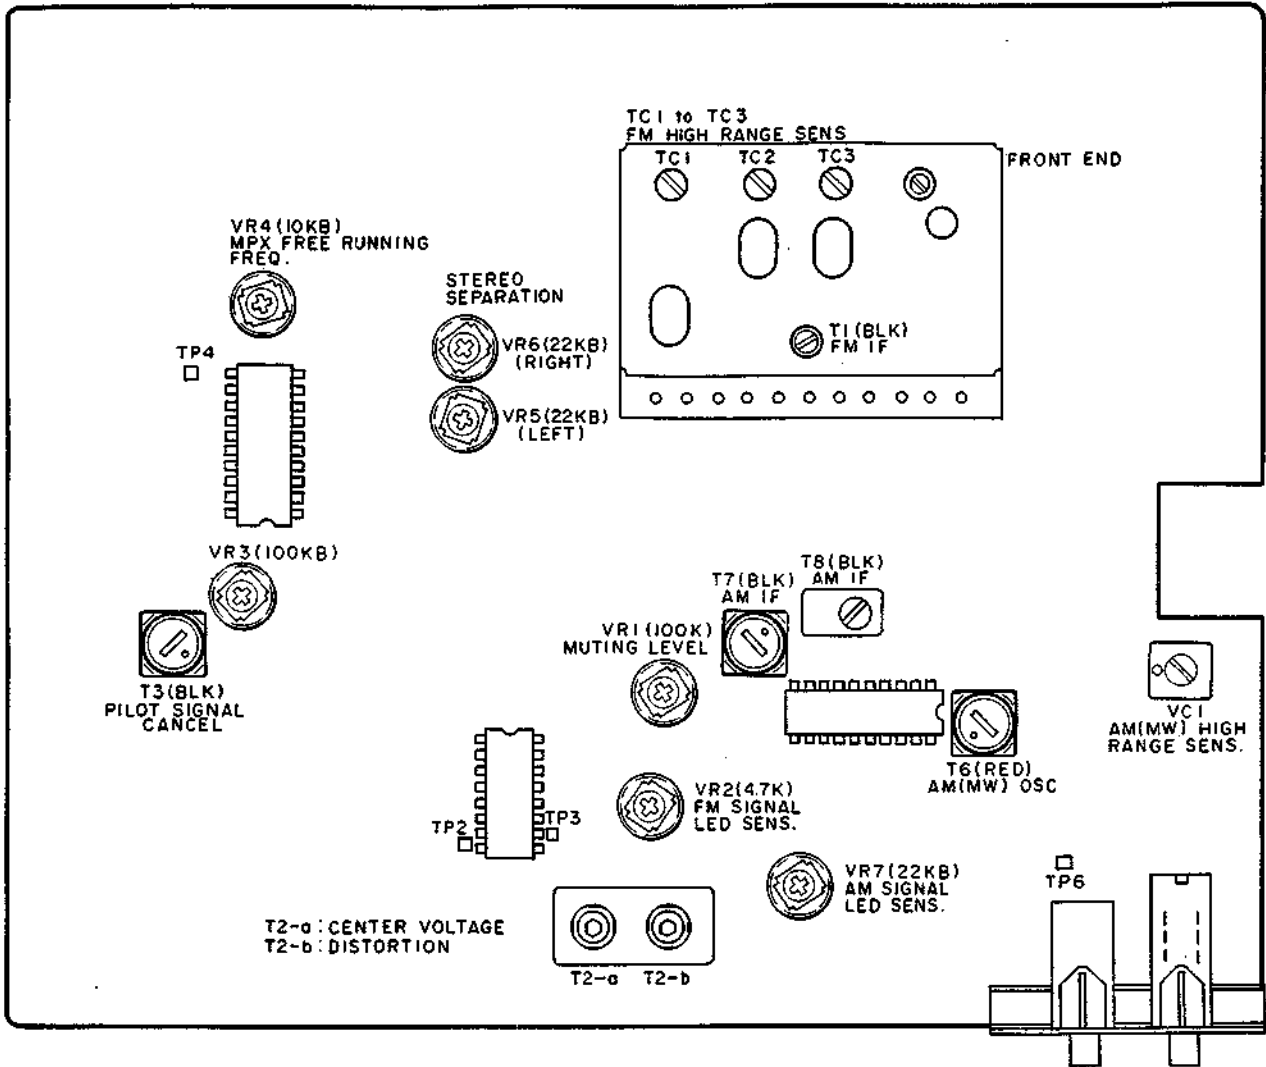

Fig. 5 Tuner P.C Board A3011A5010 and Bar Antenna (AT-S55)
1. AM (AT-S55L: MW) SECTION ADJUSTMENTS (Refer to Figs. 5 to 8)
Unless otherwise specified, use the adjustment points provided on the Tuner P.C Board (Fig. 5).
3. FM SECTION ADJUSTMENTS (Refer to Figs. 5, 10)